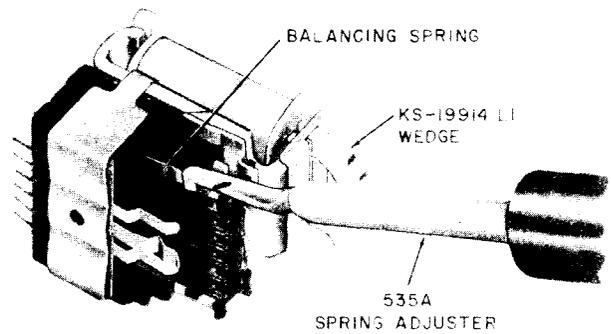

Fig. 11—Method of Adjusting Balancing Spring
(3) The balancing spring is pretensioned during manufacture by means of a bend in each leg of the spring. The bends are located to obtain parallel spring bearing surfaces against the associated areas of the moving card. To increase or decrease the tension of the spring, adjust the bend in each leg. Do not add new bends or change the location of existing bends.
(4) Place the slot of the 535A spring adjuster on the leg of the balancing spring just in back of the two projections at the end of the leg. Slide the adjuster close to the pretensioned bend in the spring (see Fig. 11). Take care not to slide the adjuster over the bend.
(5) To increase the spring tension, move the spring slightly toward the armature using the adjuster and bend the spring slightly away from the armature while maintaining a pressure on the adjuster toward the armature. This pressure on the adjuster is necessary in order to avoid distorting the portion of the balancing spring leg to the rear of the pretensioned bend. To decrease the spring tension, bend the spring slightly toward the armature while maintaining a pressure on the adjuster away from the armature. Take care when adjusting the legs of the spring to adjust them in